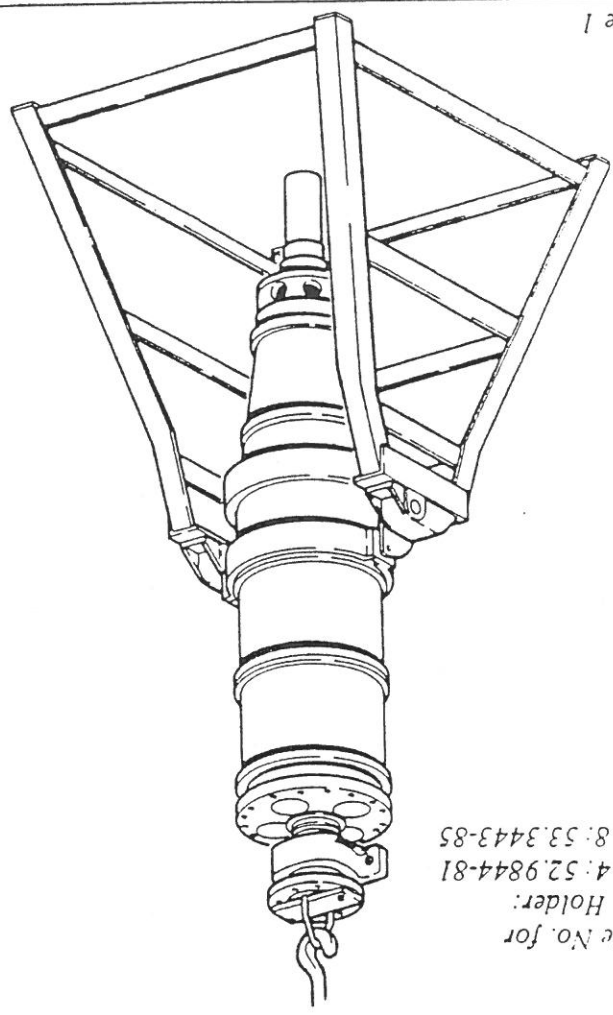

Figure 1
1. To facilitate work, place the drum in a drum holder. Remove the 16 screws (29) holding end piece to drum. Back the end piece off the drum, using the four screw plugs (28) as jackscrews. With drum in vertical position, the end piece can be lifted with the lifting tool (53.3401-80) - see figure 1. Is the gearbox not to be removed, clamp the holder around the gearbox - see page 21 - and use a sling to lift gearbox and end piece from the drum.
- Care should be taken to protect the roller bearing inner race (31) and the lip seal ring (30). For machines with paring disk: Remove the 8 screws holding the cover for the paring disk to the end piece. Use the four screw plugs in the cover as jackscrews, loosen the cover and use the screw holes to reach the 8 screws holding the end piece to the drum. Tilt cover, and by two fingers pick up each screw when loosened. Turn cover to get to next screw until all eight screws are out. Continue dismantling as described, using the screw plugs (28) as jackscrews.